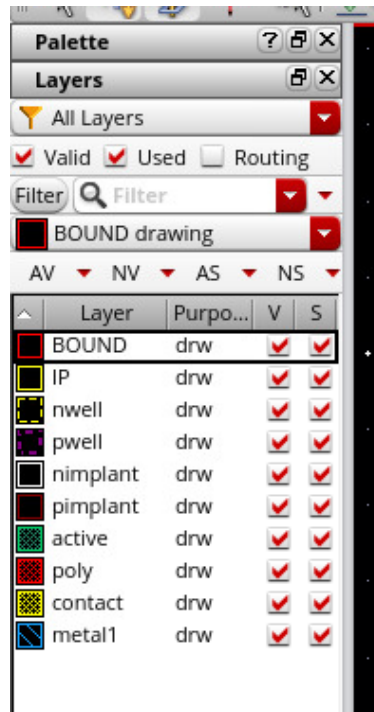

Figure 7
The inverter in this tutorial is defined by seven photolithographic mask layers³: n-well (NW), poly-silicon (PO), n+ diffusion (NP), p+ diffusion (PP), contact (CO), oxide diffusion (OD), and metal-layer 1 (M1) (Figure 7).